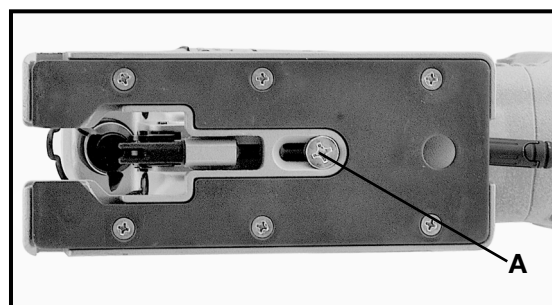

Fig. 9
NOTE: When using the anti-splinter insert, the base should be set to the forward most position (Fig. 9).
To install the plastic sub-base, remove the six screws (Fig. 9) from the bottom of the base, remove the metal sub-base, place the plastic sub-base on the saw, and reinstall the six screws. Be sure to save the metal sub-base for reuse.
The base is set at its forward most position at the factory. The base can be adjusted to the rear for making flush cuts around walls and other similar areas. To move the base forward or backward, turn the saw on its side, loosen screw (A), Fig. 9, move the base to the desired position and retighten the screw.
NOTE: When making bevel cuts, the base should be set to the forward most position (Fig. 9).